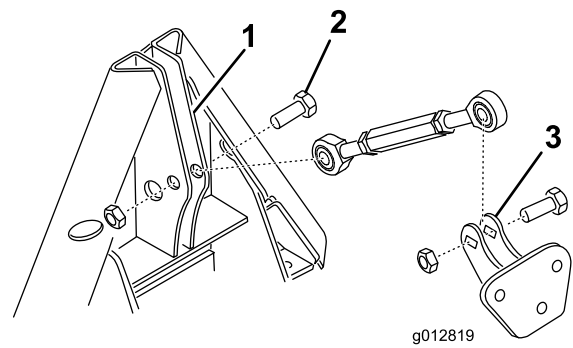

Figure 11
13. Secure one of the threaded link rod ends to the lift adapter with a 1/2 x 1-1/2 inch bolt and 1/2 inch nut (Figure 11).
14. Raise the lift adapter and secure the other rod end to the link mount with a 1/2 x 1-1/2 inch bolt and 1/2 inch nut (Figure 11).